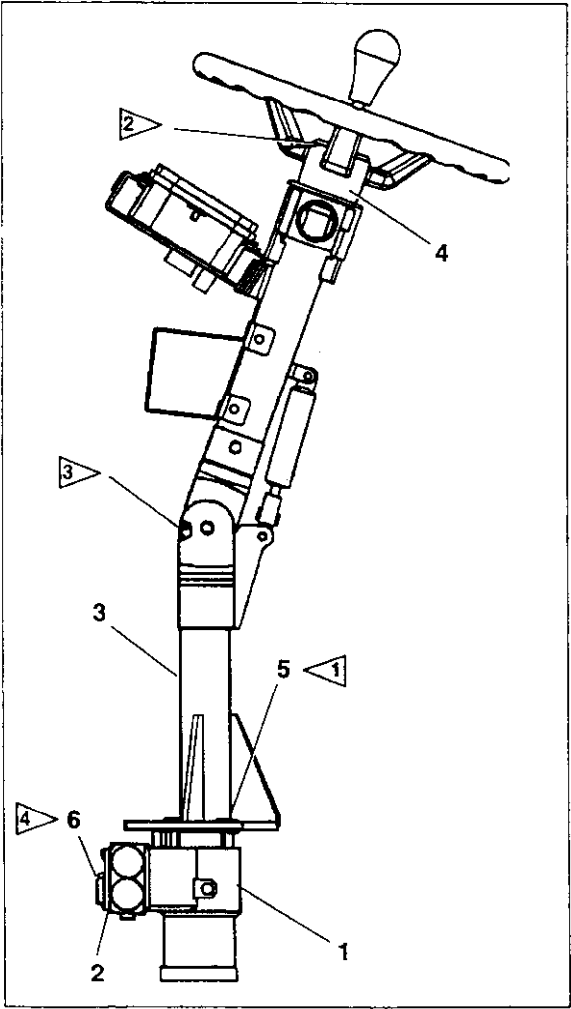

Fig. 4-7 Steering column complete with steering valve
Remove the securing screws and extract valves block (2) from the steering valve (1, fig. 4-7).